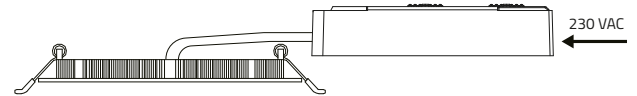

fig. 2
2. Connect the TALAN recessed downlight to the secondary side line of the converter using the connector supplied with the matching counterpart of the connector. Connect the existing 230 V AC mains voltage to the primary side of the converter (fig. 2).